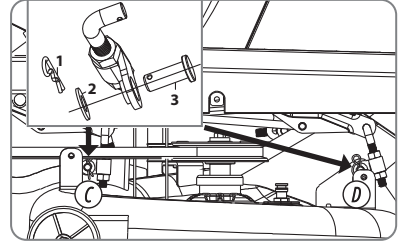

Fig. 51
- 10. After opening the four pins of ABCD mentioned above, take out the cutterhead from the side (Fig. 51).